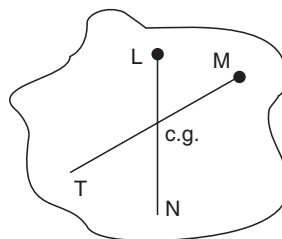

Fig. 4.3
**Another method** for determining the centre of gravity is by *suspension*. Take an object, the section of which is shown in Fig. 4.3. Suspend it from point  $L$ . The body will not come to rest until its resultant weight is vertically downward from  $A$ . Through  $L$ , draw a vertical line  $LN$ . Then suspend the body from a point  $M$ , and let come to rest. Through  $M$ , draw a vertical line  $MT$ . The point of  $LN$  and  $MT$  is the position of the centre of intersection of gravity.